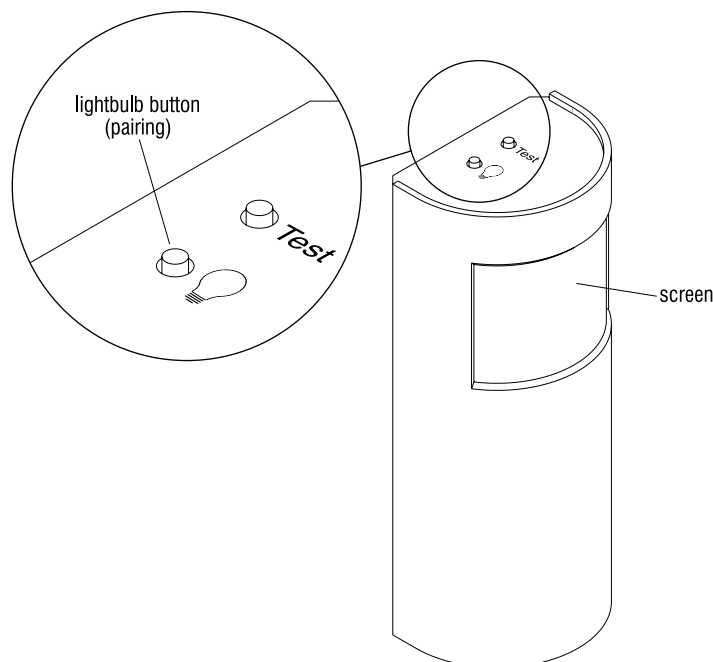

Figure 9 - Occupancy Sensor Top
6. Test the pairing of the occupancy sensor by pressing the LIGHT BULB button once, which should turn the fans on, and press the button again to turn them off (Figure 9).
- Test the pairing of the occupancy sensor by pressing the LIGHTBULB button once, which should turn the fans and lights on, then press the button again to turn them off (Figure 9).